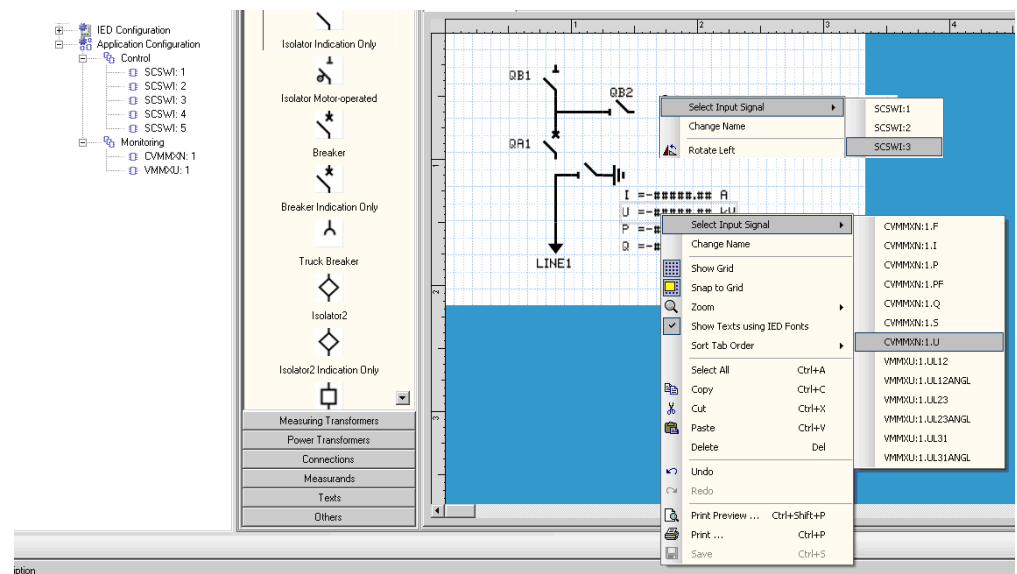

Figure 56: GDE: Establish a dynamic object link
8. Select each object that has a dynamic link and do the link to the corresponding process object, see Figure 56.